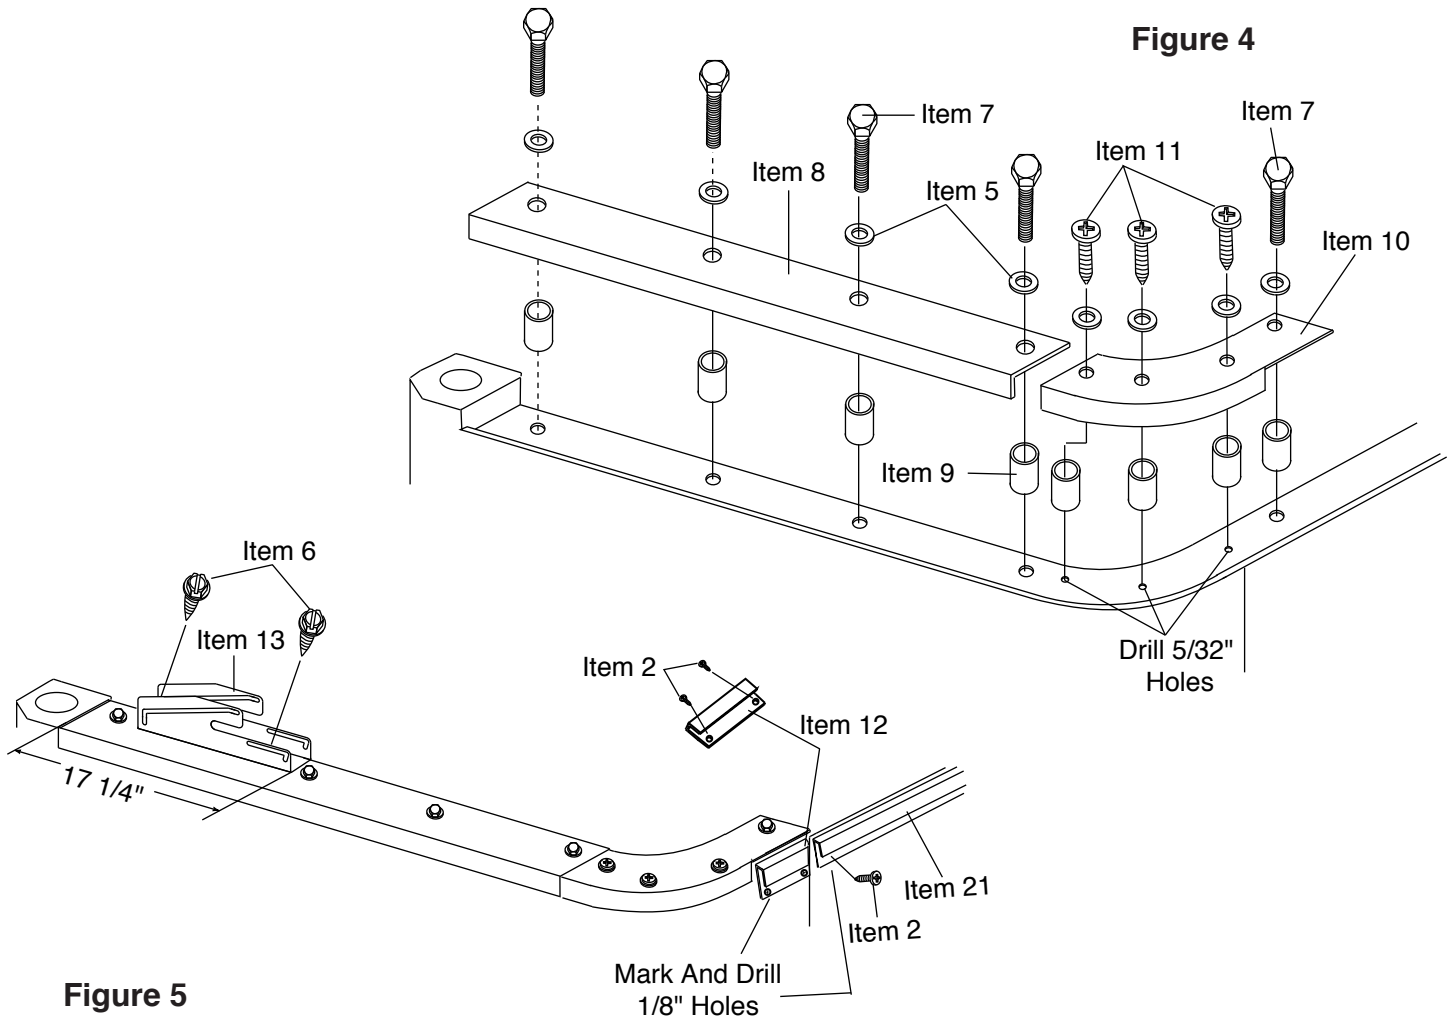

Figure 5
Step 4. Bow Mount. Mark a line on top of belt rail 17 1/4" from rear of door post. Place the end of bow mount (Item 13) on this line flush with the inside edge of belt rail. Using outside set of holes in bow mount as a template, drill 5/32" holes in belt rail. Secure bow mount to body using #14 x 1/2" sheet metal screws (Item 6) through holes in bow mount. Repeat for the other side. See figure 5.
Step 5. Tailgate Channel and Tailgate Clips. With the opening of the channel facing down, center the tailgate channel (Item 21) from side to side on the tailgate, even with the top of the tailgate. Using tailgate channel as template, mark and drill 4-1/8" holes. Secure with #10 x 1/2" sheet metal screws (Item 2) through tailgate channel and into tailgate. See figure 6. Next, place one of the tailgate clips (Item 12) even with the top of the body, open side of the clip down, 1/4" outside of the opening for the tailgate. Using the tailgate clip as a template, mark and drill 2-1/8" holes. Secure with #10 x 1/2" sheet metal screws (Item 2). Repeat for the other side of the tailgate. See figure 5.